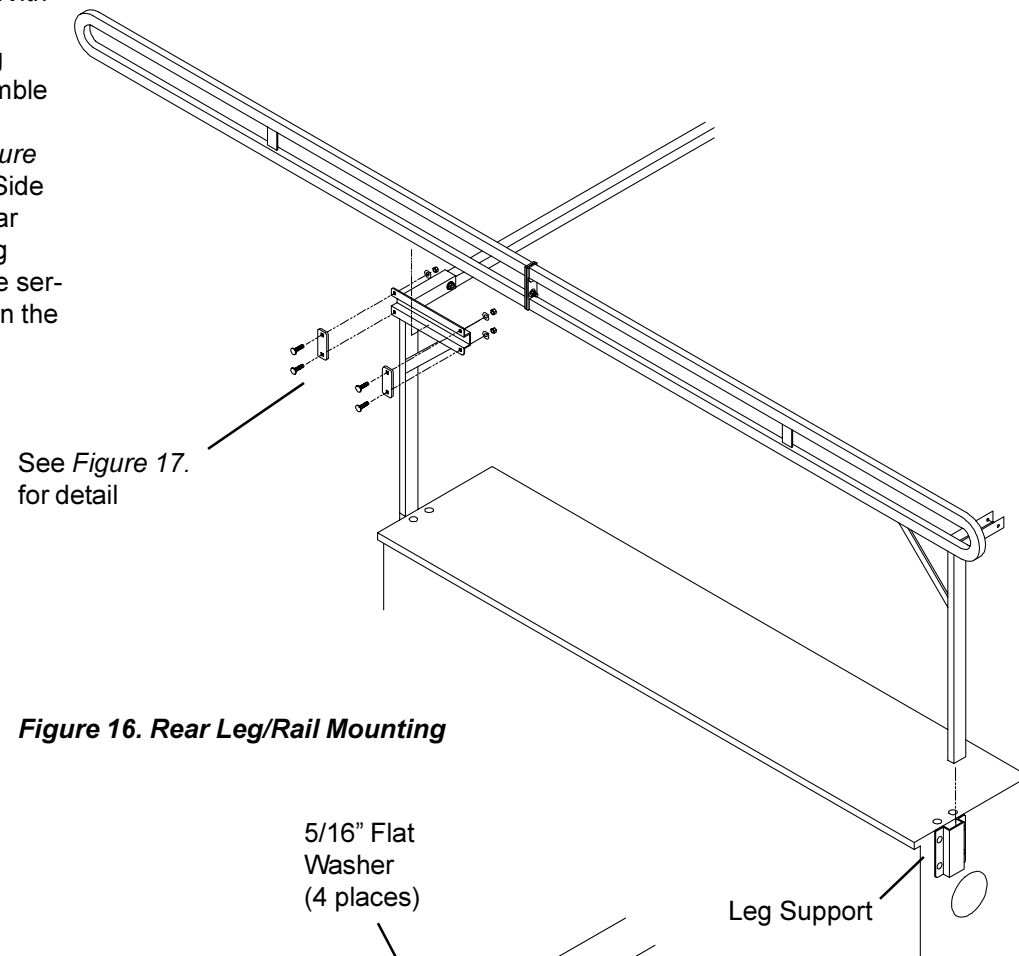
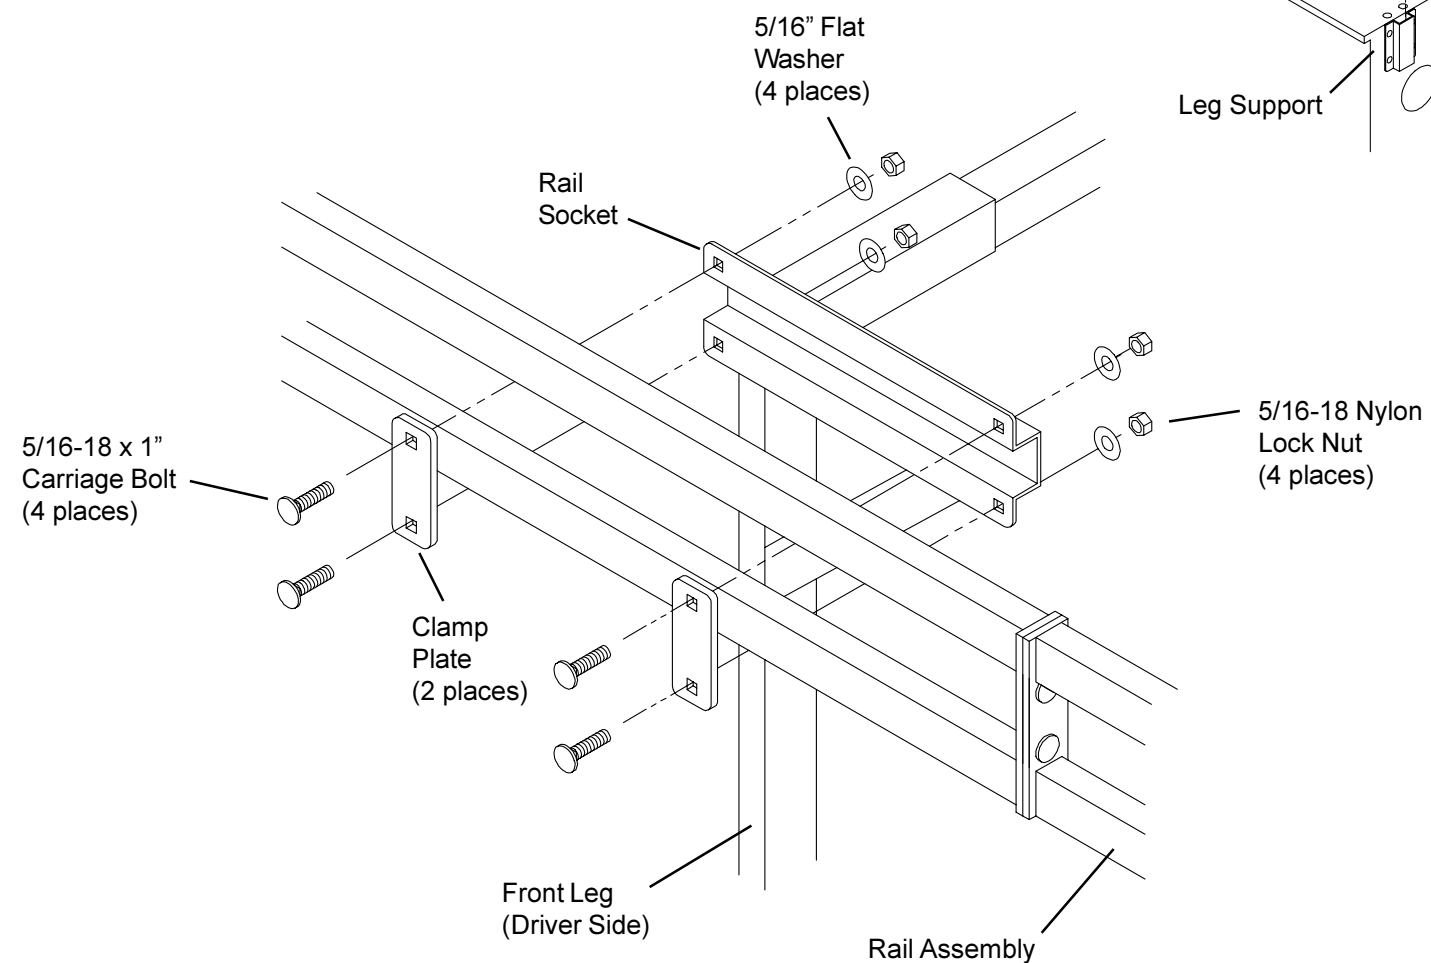

Figure 16. Rear Leg/Rail Mounting
Figure 17. Rear Leg/Rail Mounting Detail - Driver Side only shown - procedure is the same for Passenger Side
7. Rear Leg / Rail Mounting - With the help of another person, install the Driver Side Rear Leg/Rail into the Leg Support at the rear, and loosely assemble the Rail assembly in the Front Leg rail sockets (see Figure 16. and detail Figure 17.). Repeat this with the Passenger Side Rear Leg/Rail. Tighten both of the Rear Leg/Rails in the Leg Supports, making sure the Legs are at 90 degrees to the service body. Tighten the Clamp Plates on the front Rails.